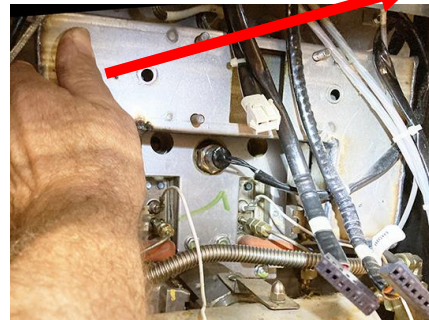

Figure 21
24. Remove the plenum by sliding towards the front of the fryer (see Figure 21).